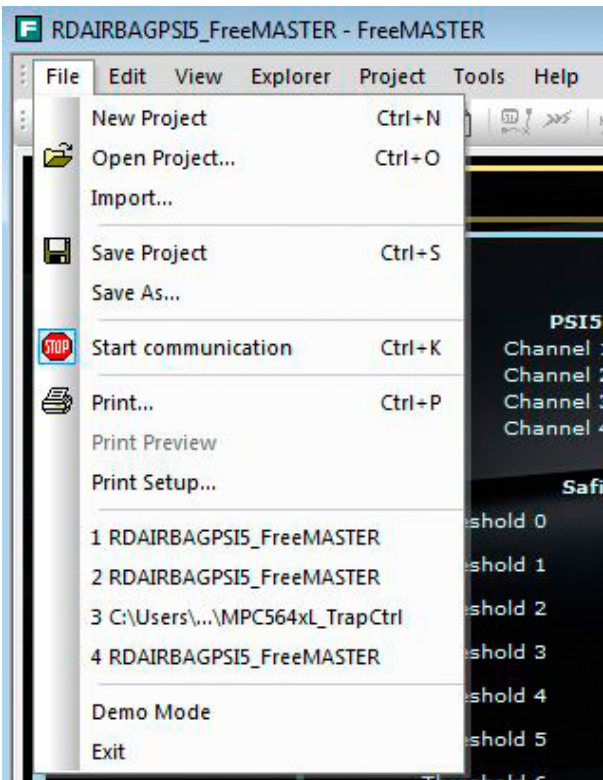

Figure 14. ARP Graphical User Interface File/Start
9. Open "File/Start communication" to establish the connection. See Figure 14.